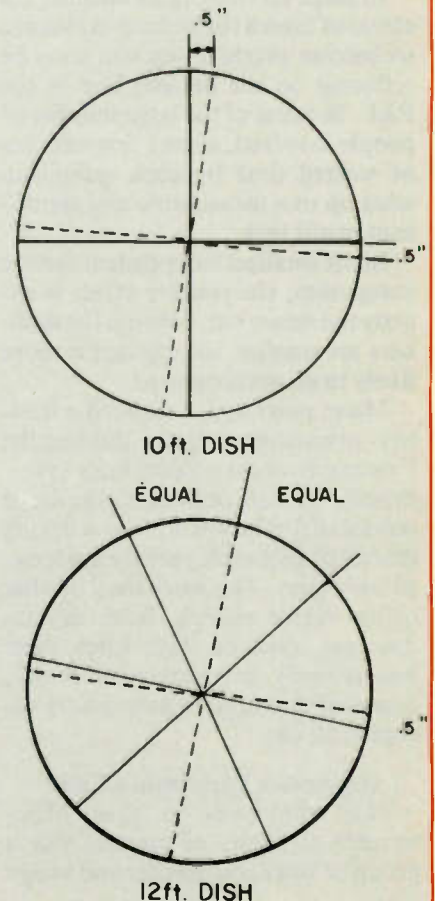

Figure 1. Procedure for checking a parabolic dish for aperture distortion. (Photo courtesy Channelmaster)
1. Accurate Parabolic Shape. The dish must have no bumps or valleys (see Figure 1).